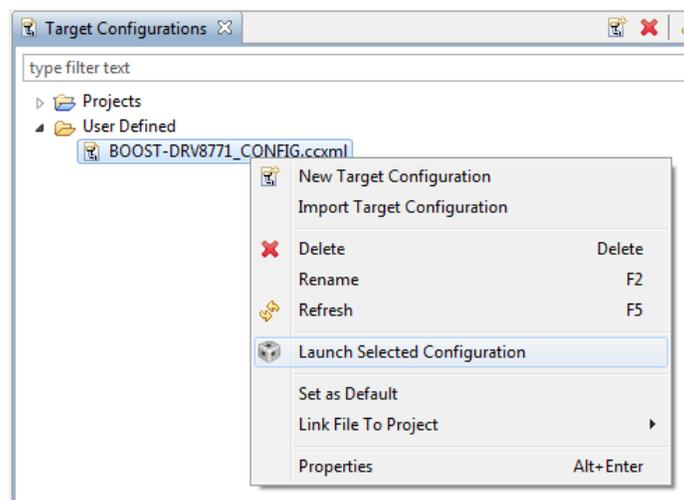

Figure 8. Launch Selected Configuration
- Right click the newly-created *Target Configuration* file and select **Launch Selected Configuration** (see Figure 8)